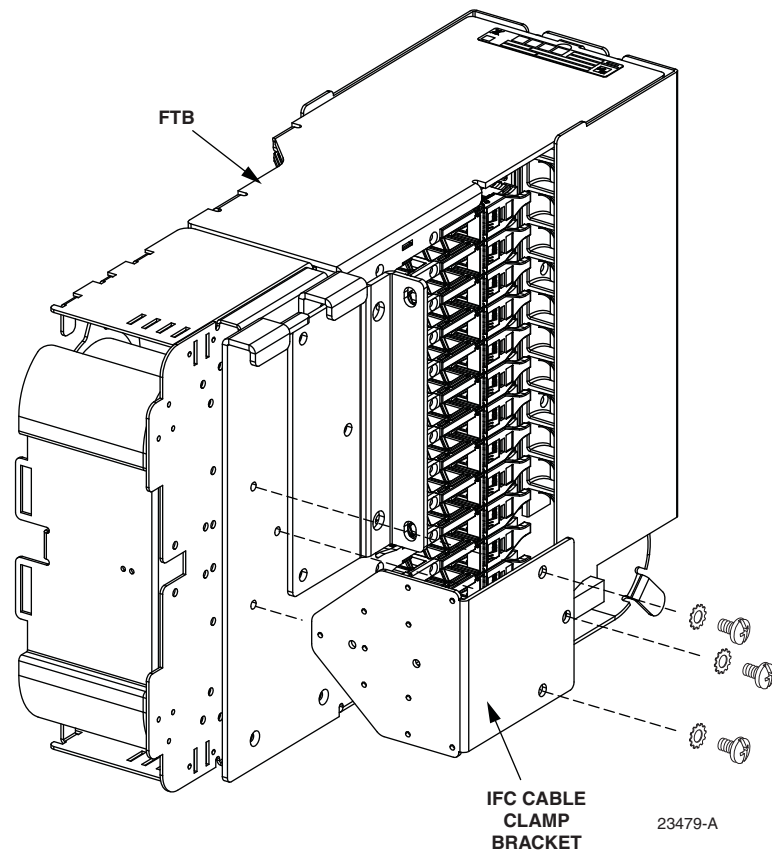

Figure 10. Installing the IFC Cable Clamp Bracket
3. Install the IFC cable clamp bracket as shown in Figure 10 using the three screws and lock washers provided.